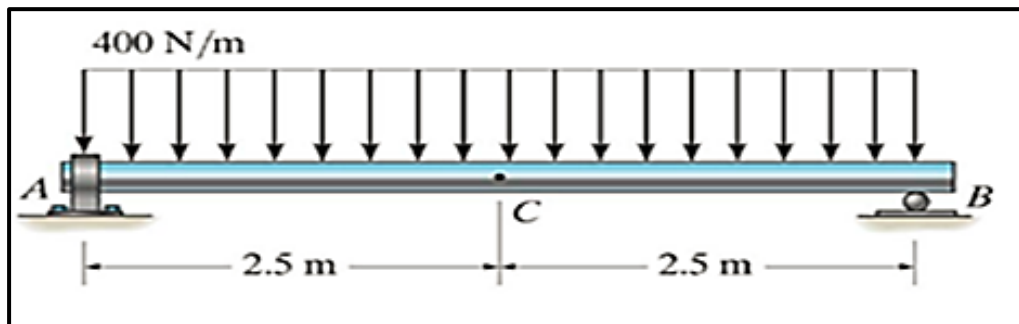

Figure 3(b) / Rajah 3(b)
- CLO2 (b) Figure 3(b) shows a 5 m span simply supported beam was subjected to a uniformly distributed load of 400 N/m. Calculate the reaction force at support A and B.